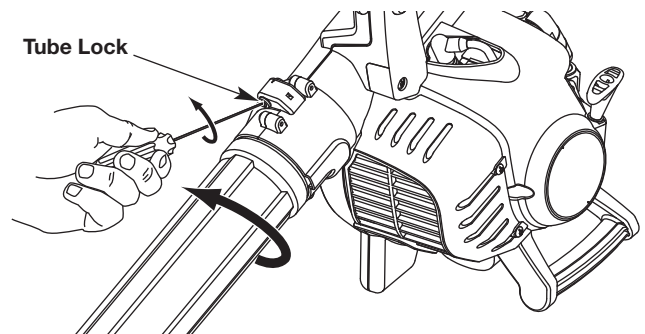

Fig. 4
1. Insert a flat-head screwdriver into the tube lock. Turn the screwdriver counterclockwise 1/4 turn and hold it in place (Fig. 4).
2. Twist the blower tube counterclockwise until it unlocks from the blower outlet (Fig. 4).